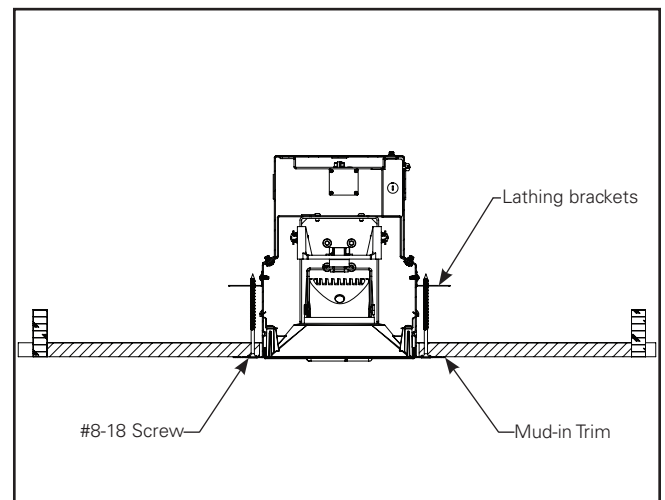

**Figure 1.9.**
6. Once the sheet rock is fixed, add the Mud-in trim to the sheet rock. (Figure 1.9)